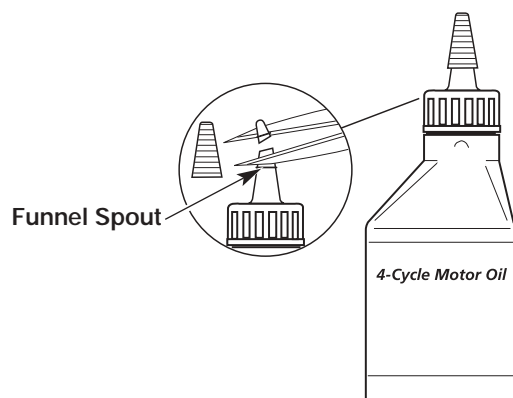

Fig. 16
Your unit is supplied with one 3.4 fluid oz. (100 ml.) bottle of SAE 30 SF, SG, SH oil (Fig. 16).
1. Unscrew the top of the bottle of oil and remove the paper seal covering the opening. Replace the top. Next, cut the tip off the funnel spout (Fig. 16).